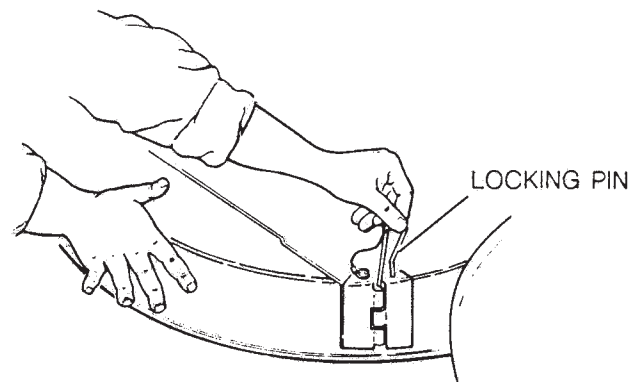

Figure 12
4. Slide chute assembly under deflector. Hook rear chute bracket around pivot post on deck. Slide front of chute into locking position with mating part of hinge lock. Insert locking pin (Fig. 12).